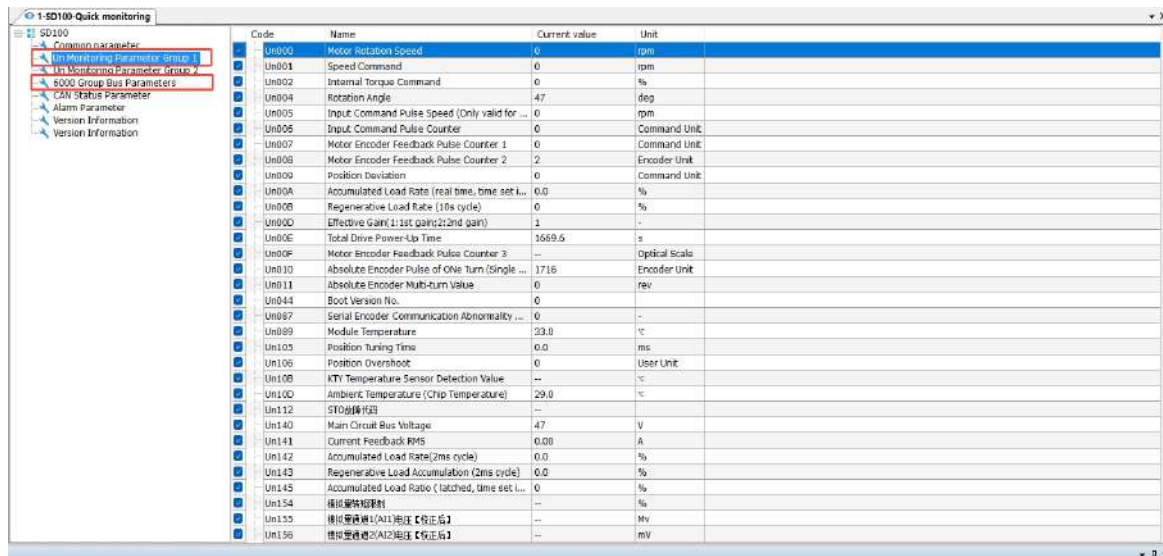

Figure 3-7 Real-time Monitoring Interface
- In the real-time monitoring interface (see Figure 3-7), all Un-group parameters and the 6000-group bus communication object dictionary parameters can be read in real time by selecting the checkbox to enable data acquisition. Right-click frequently used monitoring parameters to add them to the Frequently Used Parameters for continuous real-time reading, filtering out unnecessary parameters.